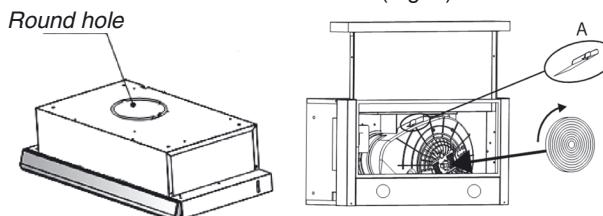

Рис.6
- Remove the flap "A" located on the motor group (Fig. 6). When working through the round hole for the air line adapter
- Install a carbon filter in the hood (Fig. 6).